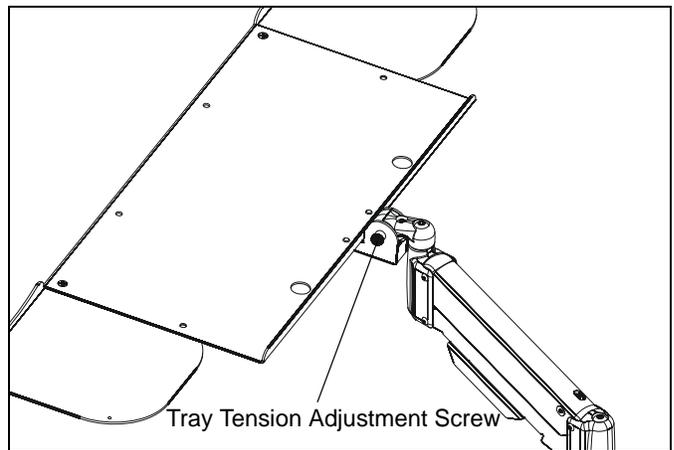

Figure 49
1. Using 1/4" hex key (Y), slightly loosen or tighten the tray tension adjustment screw as necessary. (See Figure 49)